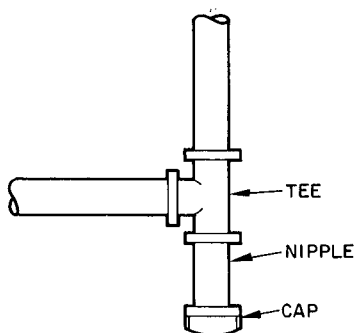

Fig. 7 — Sediment Trap
4. Install a sediment trap in riser leading to the heating section. See Fig. 7. This drip leg functions as a trap for dirt and condensate. Install trap where condensate cannot freeze. Install this sediment trap by connecting a piping tee to riser leading to heating section, so that straight-through section of tee is vertical. Then, connect capped nipple into lower end of tee. Extend capped nipple below level of gas controls.